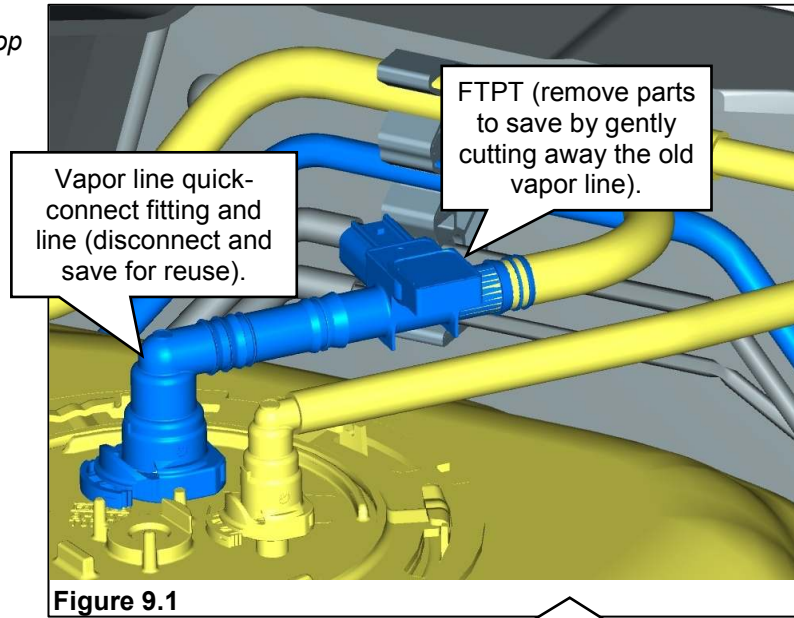

Figure 9.1
1. Detach all vapor lines at quick-connect fittings on fuel tank. Leave the vapor purge line between the canister and engine in place. Detach the fuel supply line from the fuel tank. Remove and discard the fuel supply line. **Figures 9.1 and 9.2.**